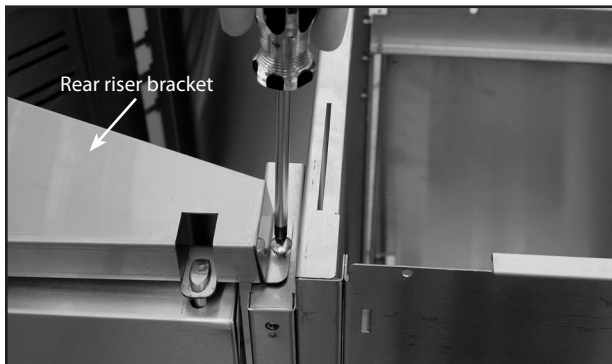

Fig. 10
4. Remove the door from the Bend Unit by removing the screw holding the rear riser bracket near the door hinge (Fig. 10). This must be done to provide access to the mounting holes.